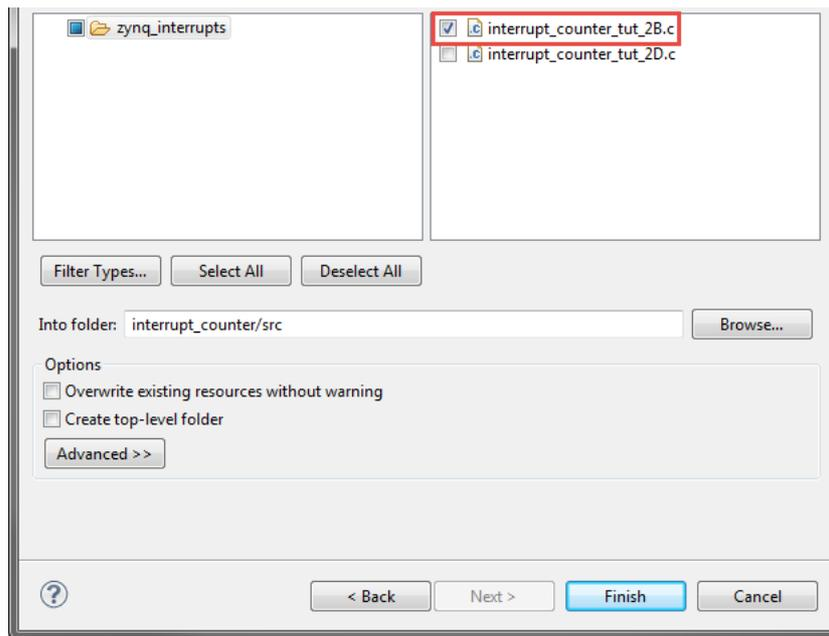

Figure 2.31: Import C source file
- (g) Select the file **interrupt_counter_tut_2B.c**, as shown in Figure 2.31, and click **Finish**.